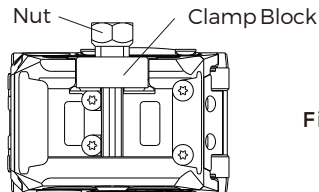

Fig 6
1. Use the included 11mm tool to loosen the nut by rotating counterclockwise. (See Fig 6)